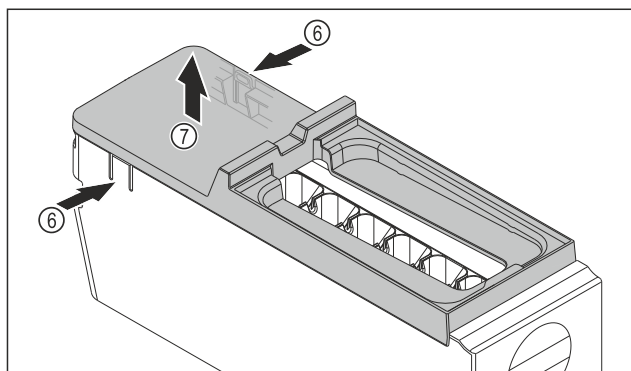

Fig. 135
- Removing the cover of the EasyTwist-Ice body: With one hand, press the tabs Fig. 135 (6) on both sides of the EasyTwist-Ice body.
- With the other hand, remove the cover Fig. 135 (7) upward.